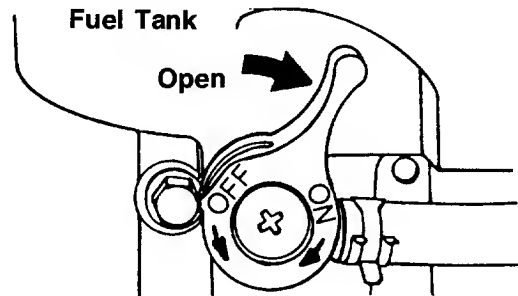

FIGURE 19.
2. Models 464R, 466R, 468R, 474R, 476R and 478R only: Open fuel shut-off valve. See figure 19.